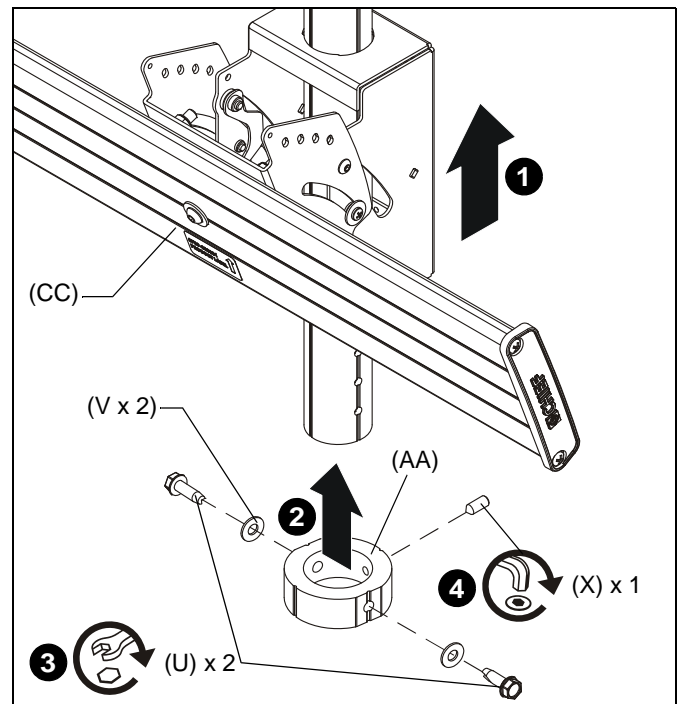

Figure 3
1. Slide ceiling mount (CC) up from below onto installed column (not included). (See Figure 3)
2. Slide bottom stop collar (AA) onto installed column, lining up holes in collar with holes in column.
3. Install two 5/16" x 1" self-tapping screws (U) through two 5/16" flat washers (V), bottom stop collar (AA), and into installed column.
4. Install and tighten 5/16" x 3/4" set screw (X) into bottom stop collar (AA). (See Figure 3)